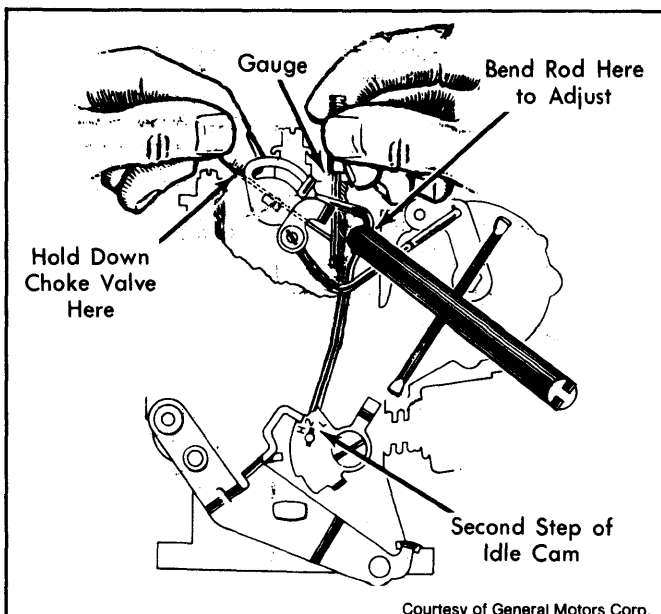

Fig. 4: Adjusting Choke Coil Rod
- 1) Make sure fast idle speed is correctly set. Place fast idle cam follower on second step of fast idle cam, against shoulder of highest step. See Fig. 4.